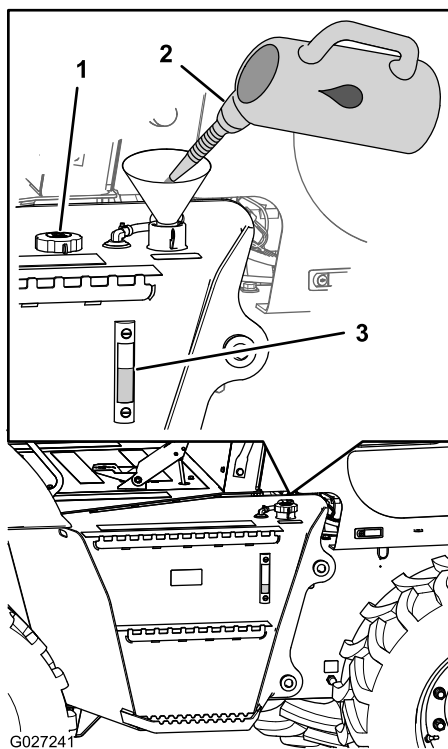

Figure 26
3. Check the hydraulic-fluid level in the sight glass located at the side of the hydraulic reservoir (Figure 26).
4. If the hydraulic-fluid level is not visible in the sight glass, remove the fill cap (Figure 26), add the specified hydraulic fluid until the fluid level is at the midpoint of the sight glass, and install the fill cap.